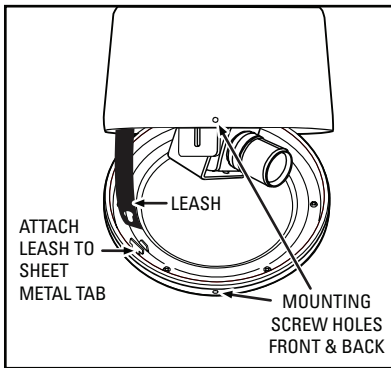

Figure 5. Attaching the Trim Ring Leash
1. If the lower dome has a smoked or clear viewing slot, loosen the six retaining screws inside the rim. Refer to Figure 5 and hold the lower dome up against the back box with the mounting screws lined up with the mounting holes in the back box. Rotate the acrylic dome to line up the viewing slot with the camera. Retighten the six retaining screws.